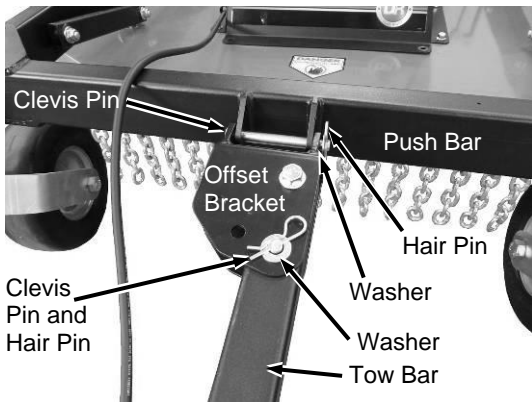

Figure 44
3. Turn Tow Bar over to position Offset Bracket for left side offset and reattach to Push Bar with the Hair Pin, Washer, and Clevis Pin (**Figure 44**).